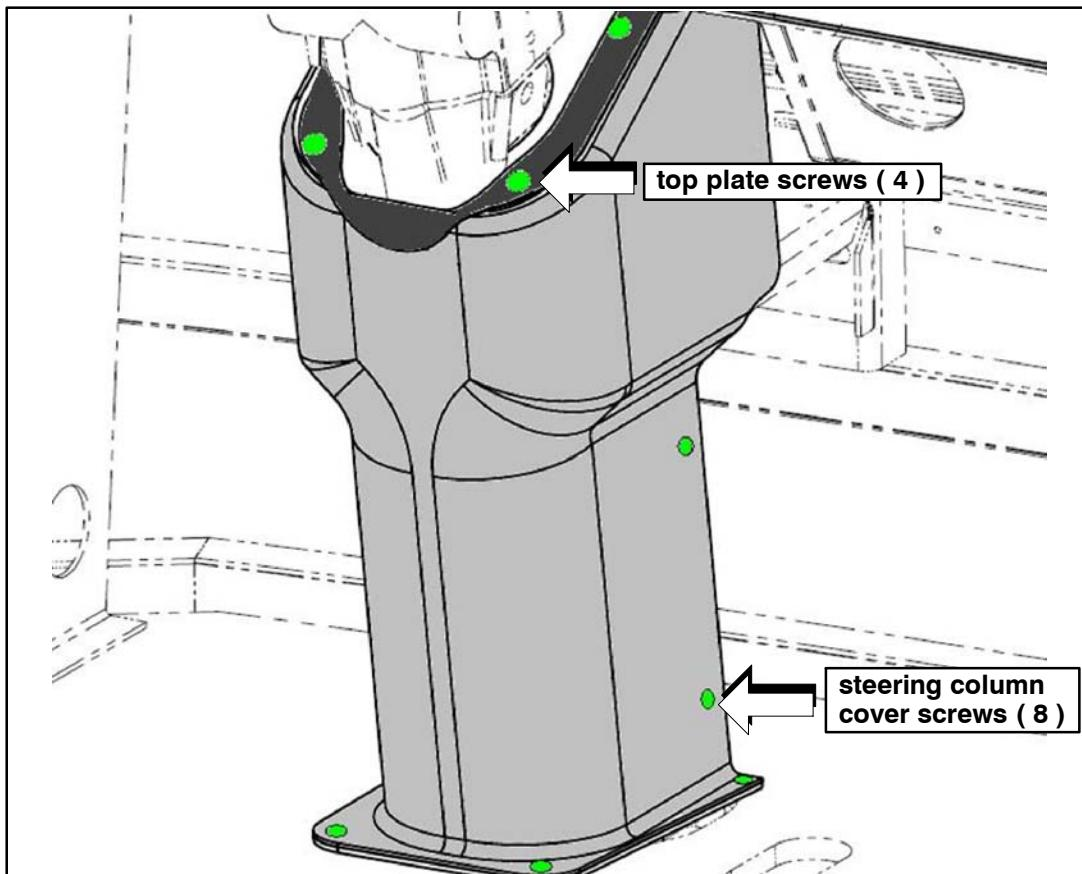

Figure 1.
2. Locate the steering column cover assembly below the steering wheel. Remove and retain the four screws on the top plate, and the eight screws on the steering column cover assembly (refer to Figure 1).